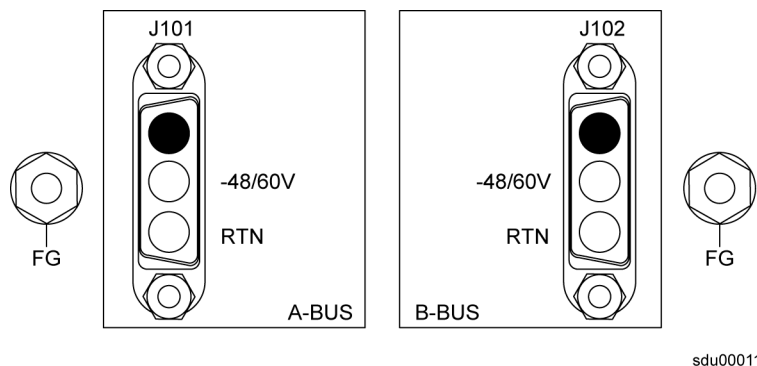

Figure 3-2. SSU-2000e Power Input Connector
Refer to Figure 3-2 for power connections. Pin 1 of each connector is not used. Pin 2 of each connector is $-48/60$ vDC and pin 3 is the Return. The $-48/60$ vDC power inputs have feed-through Pi-filters on each line through the front panel and DC Isolated from Frame and Logic ground. The power return connections are connected to Frame and Logic ground. Both the A-BUS and B-BUS power are fed to the individual module slots through the backplane.
1. Attach 1.29 mm² (minimum) stranded wire to two DA3W3P connectors (supplied) as shown in Figure 3-2.